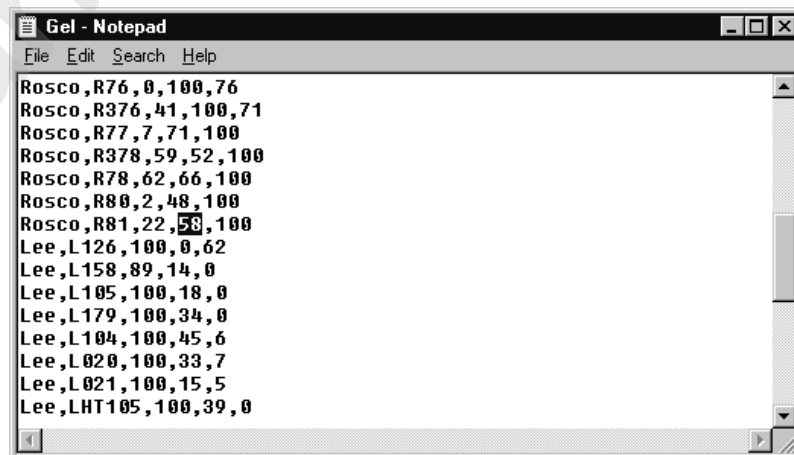

Figure 5.26. Off-Line Color Table Editing
2. Press the <GEL> key in the COLOR MIX group to bring up the **Gel Picker** dialogue box. Refer to Figure 5.26. Alternately, select the **Gel Picker...** item from the **Window** drop-down menu.
2. Open the gel text file (gel.txt or other custom text file) located in the current *Status Cue* or custom directory. The comma delimited file is in the following order: manufacturer, color name, red value, green value, blue value. Refer to Figure 5.26.